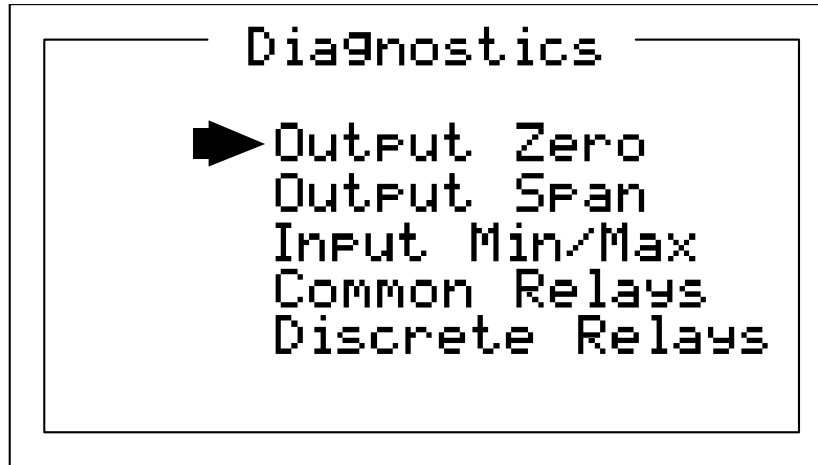

Figure 2.13
**WARNING:** Alarm processing is halted with the **Diagnostics** mode active. The **Diagnostics** menu in Figure 2.13 is useful for testing standard and optional Input / Output devices such as relays and 4-20mA outputs. Diagnostic menu items are described below: